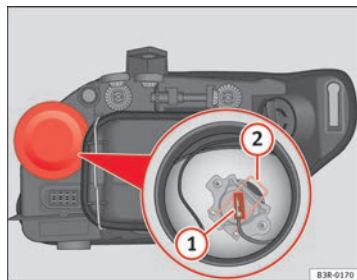

Fig. 193 Main beam headlights
- Remove the connector ⇒ fig. 193 **1** from the bulb.
- Press the spring ⇒ fig. 193 **2** inwards and to the right.